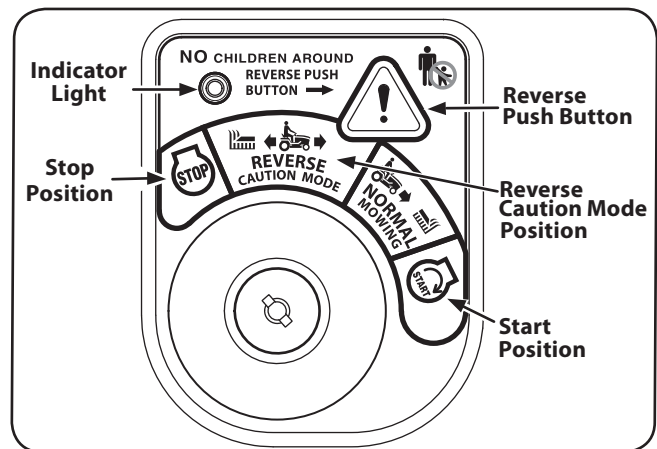

Figure 5-1
2. Turn the key from the NORMAL MOWING (Green) position to the REVERSE CAUTION MODE (Yellow) position of the key switch module. See Figure 5-1.
3. Depress the REVERSE PUSH BUTTON (Orange, Triangular Button) at the top, right corner of the key switch module. The red indicator light at the top, left corner of the key switch module will be ON while activated. See Figure 5-1.